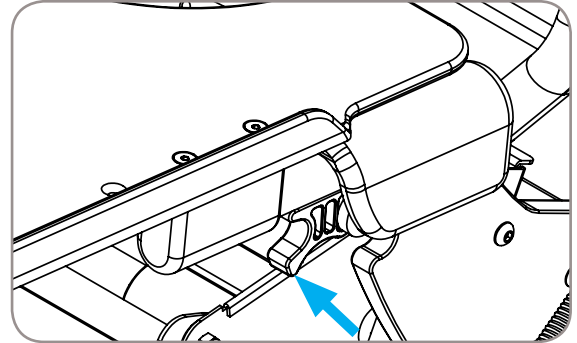

Figure 18
3. Swing left and right tray cams upward to lock in place. Reference Figure 18.